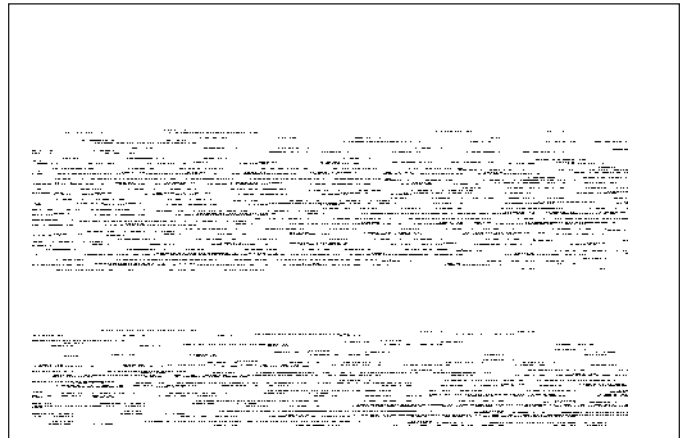

Figure 10. Piping arrangement
- A. Packaged water boilers are equipped with a water circulating pump, mounted to return the water into the boiler. For some installations, the pump should be on the supply main. See figure 10.
- A. DIAPHRAGM-TYPE COMPRESSION TANKS are used to control system pressure in an AIR ELIMINATING SYSTEM: an automatic air vent is used to REMOVE air from the system water. See figure 8. If system pressure needs further control, add an additional tank or install a larger capacity tank. Locate the tank near the boiler, as illustrated. An automatic air vent should be installed in the top of the boiler or air purger. See figure 10.